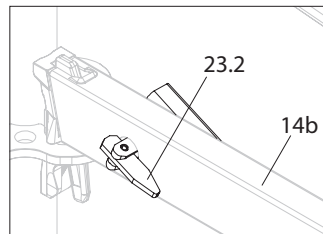

Fig. A4.08e
5. Set the tilt finger crosswise. → Ledger Brace UBL is installed. (Fig. A4.08e)
All tilt fingers (23.2) of the assembly must be transverse after installation of the Ledger Braces UBL and rest on both sides of the hole. (Fig. A4.08e)